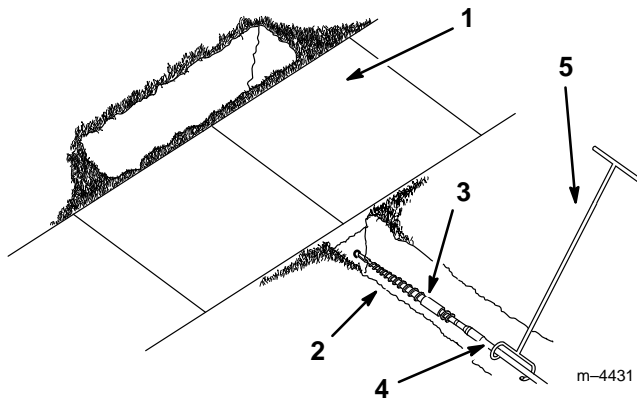

Figure 6
4. Connect the rod guide tool to the rod just behind the boring bit (Fig. 6).
5. With the person guiding the boring bit positioned to the right of the trench (Fig. 6), start the engine, move the pump selector valve to slow (turtle), position the throttle to within the middle of the RPM range, and pull the auxiliary hydraulics lever rearward to start the forward rotation of the boring bit.
6. Slowly move the traction unit forward, while the person with the rod guide tool guides the boring bit into the soil (Fig. 6).